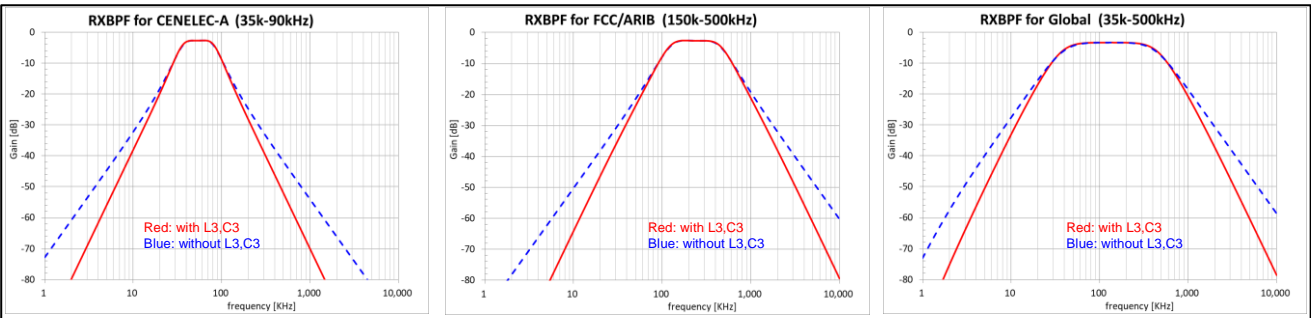

Figure 3-8 Frequency characteristics example of RX-BPF
- Figure 3-8 shows frequency characteristics example of RX-BPF. Since the magnitude of noise outside the frequency band differs depending on the installed environment, decide after considering noise outside the frequency band when deleting C3/L3 to reduce component costs.